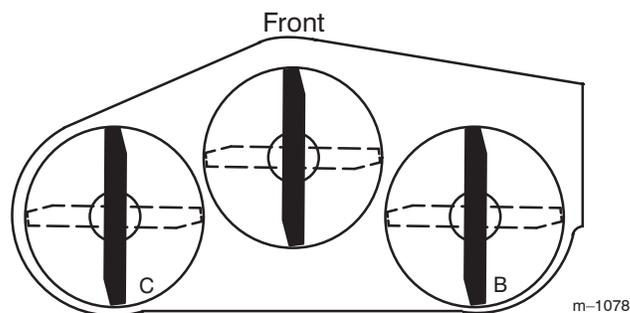
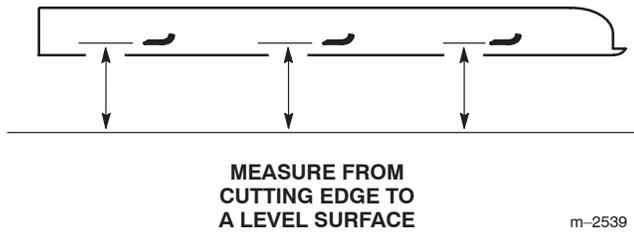

Figure 50
Figure 51
- Position the **right** blade front to rear (Fig. 50).
- Measure the right blade at the **B** location (Fig. 50), from a level surface to the cutting edge of the blade tip (Fig. 51).
- Position the **left** blade front to rear (Fig. 50).
- Measure the left blade at the **C** location (Fig. 50), from a level surface to the cutting edge of the blade tip (Fig. 51).